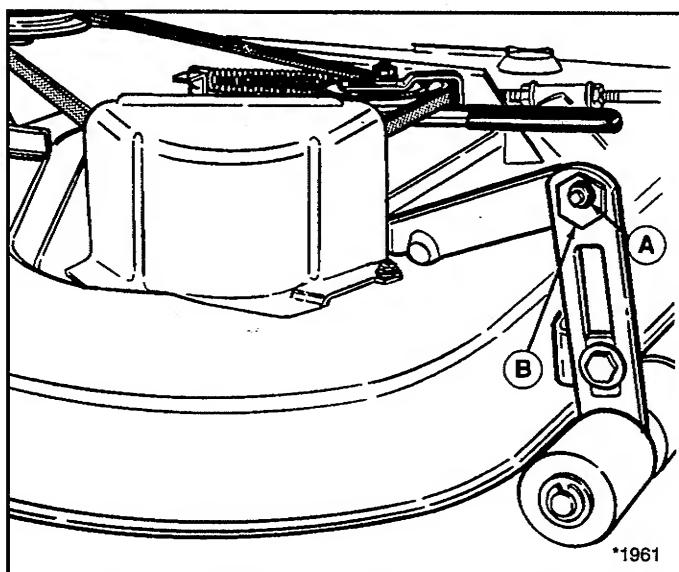
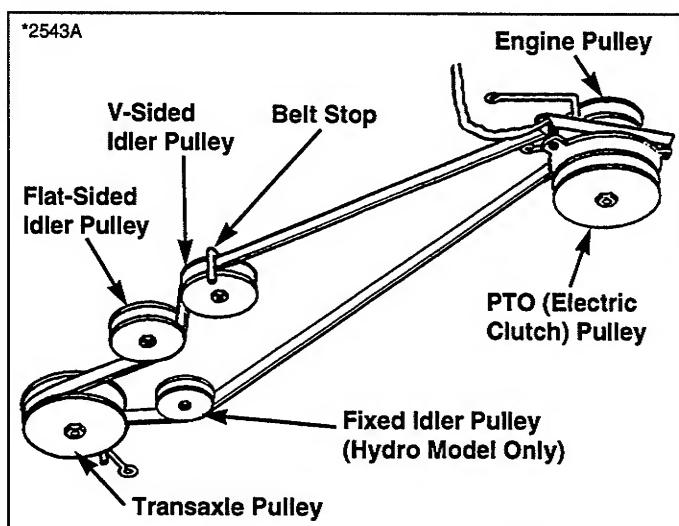

Figure 32. Leveling The Mower Side-to-Side
Figure 36. Tractor Drive Belt Routing
5. See figure 32. Loosen the outside nut (A). Turn the eccentric nut (B) to raise or lower left-hand side of mower. When mower is level, hold the eccentric nut while tightening the outside nut.
- See figure 36. Slip belt from transaxle pulley and fixed idler pulley (hydro models). Remove belt.
- Install new belt to idler pulleys as shown in figure 36.
- Install new belt to the idler pulleys as shown in figure 36. Make sure belt is properly routed on flat and V sides. Tighten capscrews (A, figure 32) securing pulleys. Adjust belt stops for 1/8" clearance from pulleys.
- See figure 36. Check belt routing around engine pulley, idler pulleys, and transaxle pulley. Check that the electric clutch, drag link and idler pulley spring are all correctly installed.